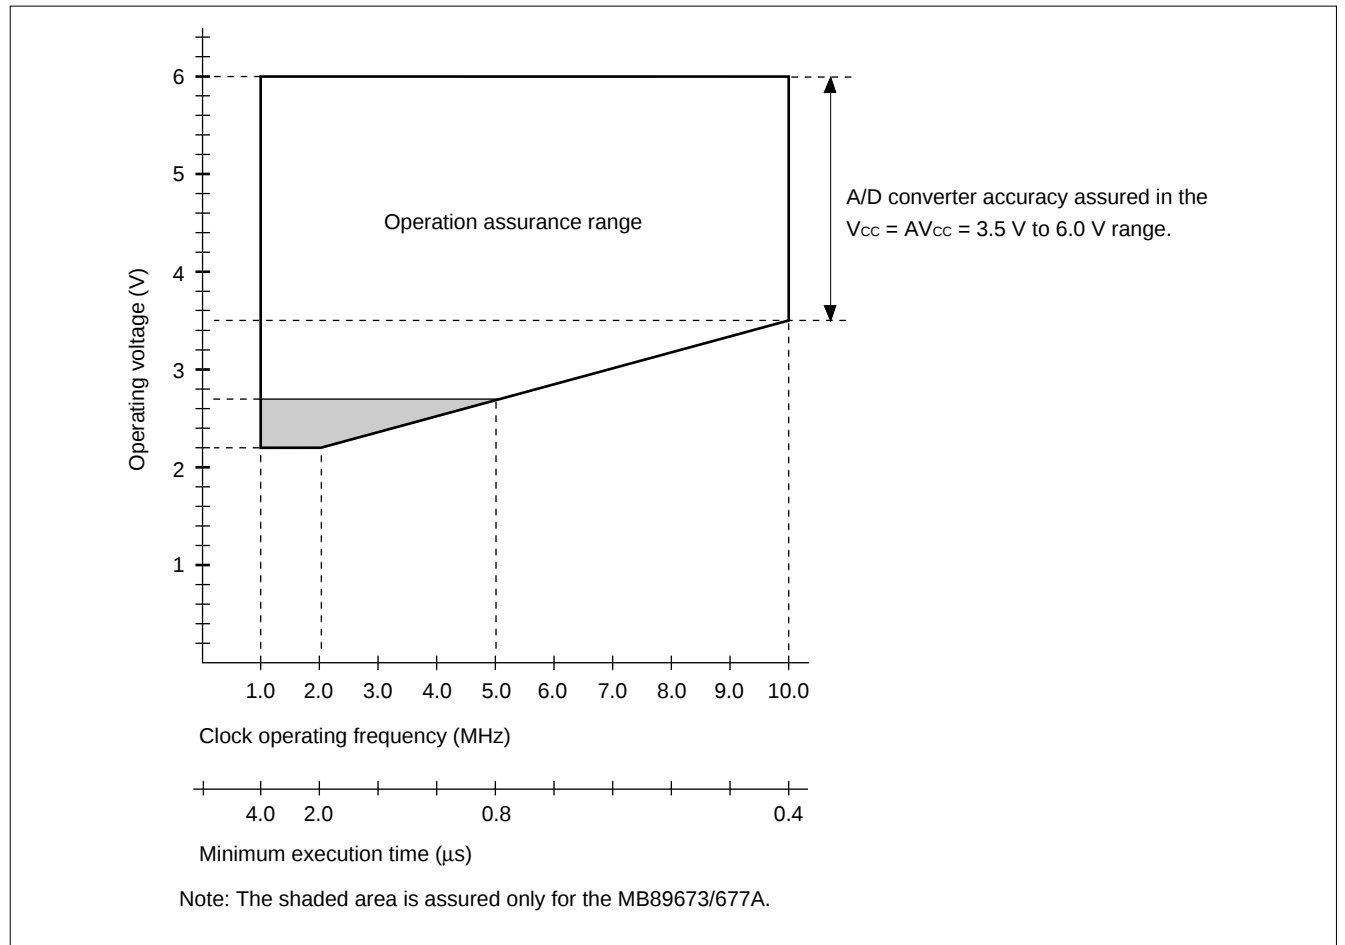

Figure 1 Operating Voltage vs. Clock Operating Frequency
* : These values vary with the operating frequency, and analog assurance range. See Figure 1 and “5. A/D Converter Electrical Characteristics.”
Figure 1 indicates the operating frequency of the external oscillator at an minimum execution time of $4/F_c$.